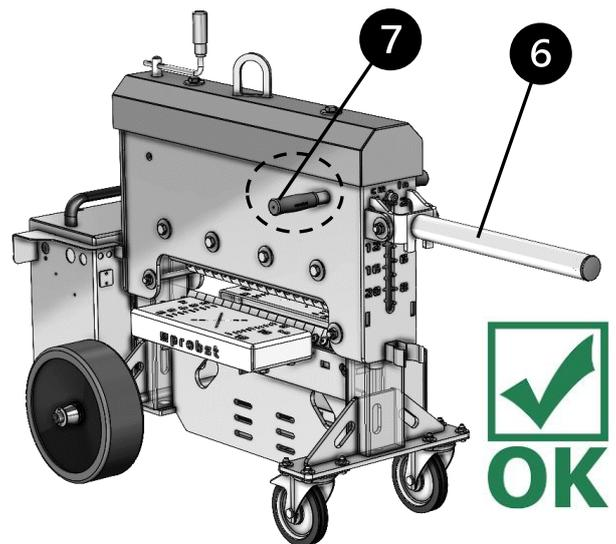

Fig. 2
- To do this, the transport lever ⑥ must be moved to the horizontal position. → Fig. 2